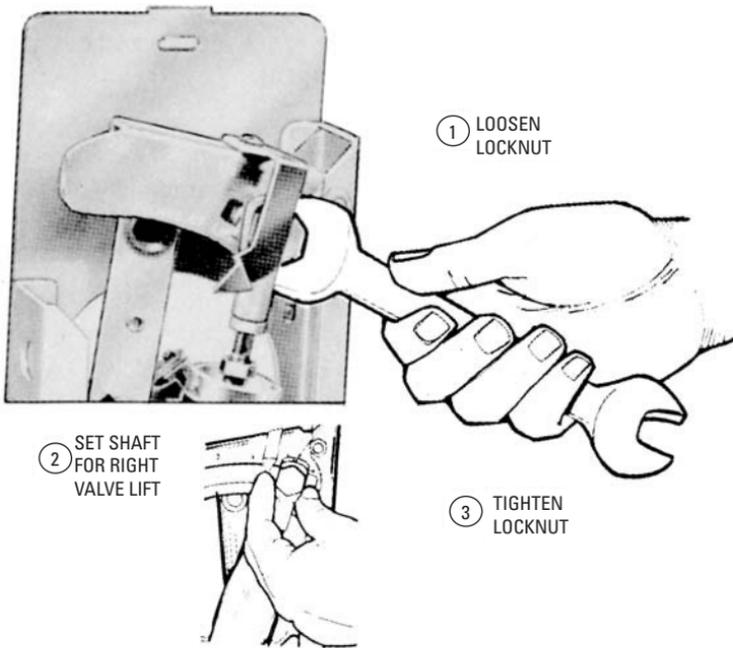

Figure 9-39 Setting the left adjustment. (Courtesy Honeywell)
2. The lift adjustment on the valve linkage allows the linkage to be used with a number of valve sizes. Set the lift adjustment equal to the rated lift of the valve according to the three steps illustrated in Figure 9-39.
Adjusting the same linkage for a three-way valve involves the same steps, particularly the alignment of the key on the crank arm with the keyway on the motor shaft. The lift adjustment, however, should be set 1/2 division above the rated valve lift (see Figure 9-39).